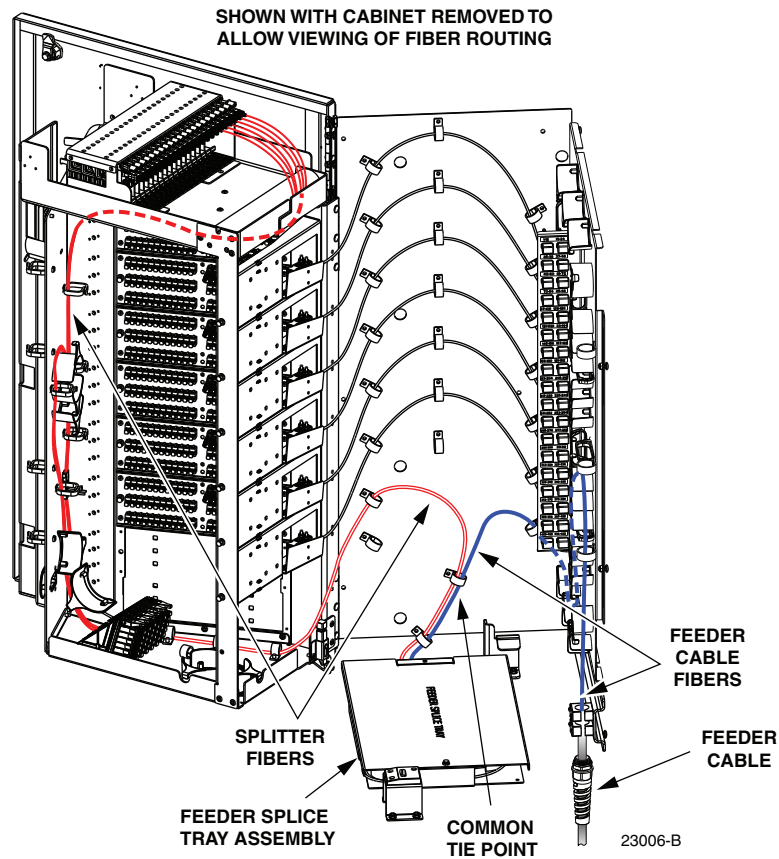

Figure 37. Feeder Splice Tray and Feeder/Splitter Fiber Routing
1. Locate the feeder splice tray assembly mounted at the bottom of the cabinet, as shown in Figure 37, and locate the splitter input fibers which are routed to the feeder splice tray.